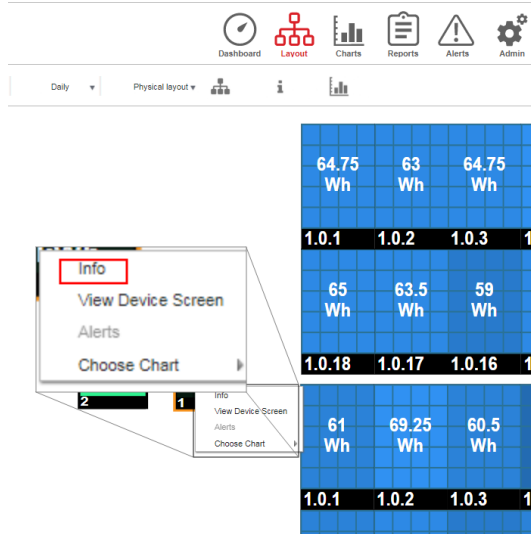
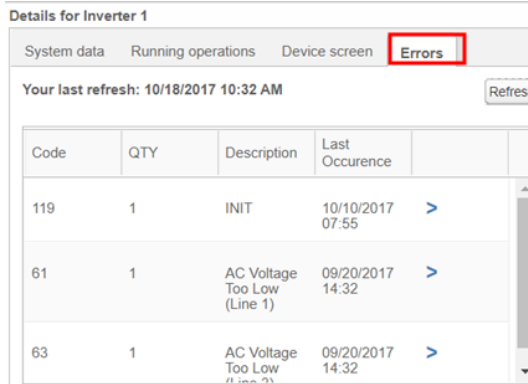

Figure 36: Inverter menu
Figure 37: Inverter details - Error list
- Right-click the inverter and select **Info** from the menu (Figure 36). The inverter details window is displayed (Figure 37).